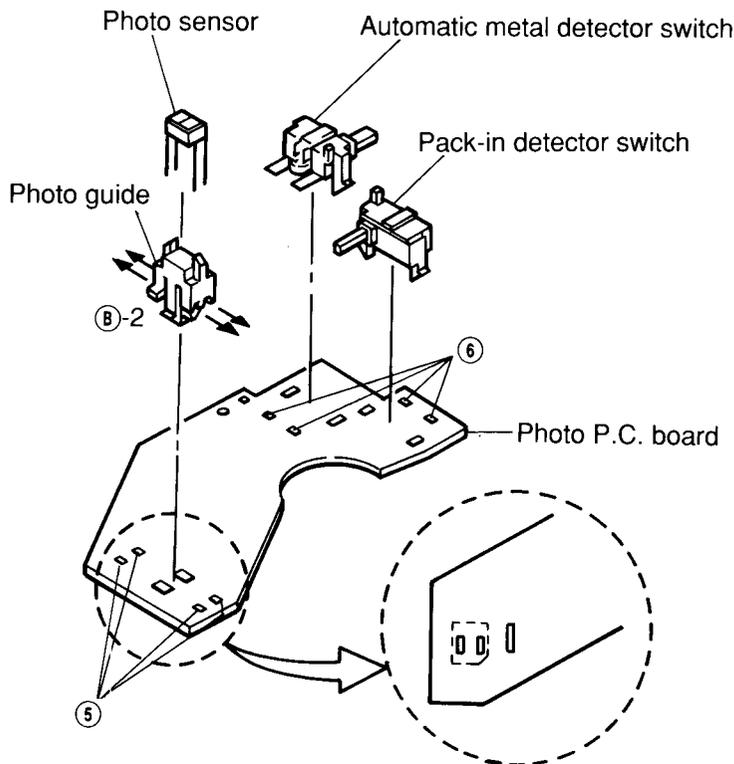

Figure 7
- (1) Remove four solders (5) as shown in Figure 7.
- (2) Remove the photo guide together with the photo sensor from the photo P.C. board as shown in Figure 7.
- (3) Insert the new photo sensor into the photo guide, and bend the legs of the photo sensor in the direction marked (B)-2 as shown in Figure 7.
- (4) Insert the photo guide into the P.C. board and solder the legs so that the photo sensor is set as indicated by [ ] in Figure 7.
- (1) Remove 4 solders (6) with which the switch is fixed as shown in Figure 7.